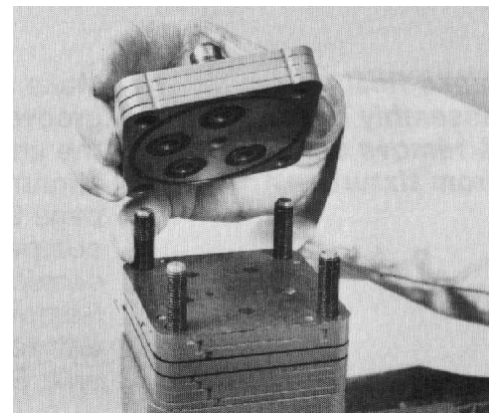

Figure 107
43. Align a groove on the side of the port cover with the grooves on the side of the port manifold and put the port cover into position (Fig. 107).